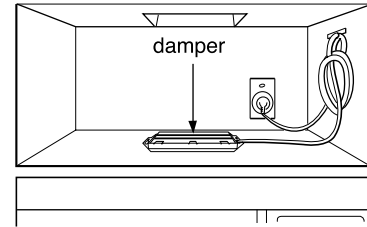

Figure 33
5. Roof venting installation: See Figure 33.